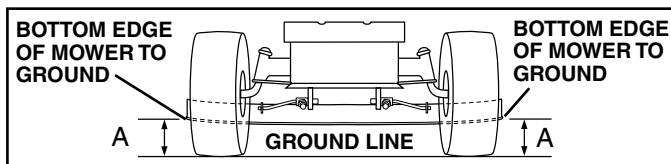

FIG. 19
**SIDE-TO-SIDE ADJUSTMENT** (See Figs. 19 and 20)